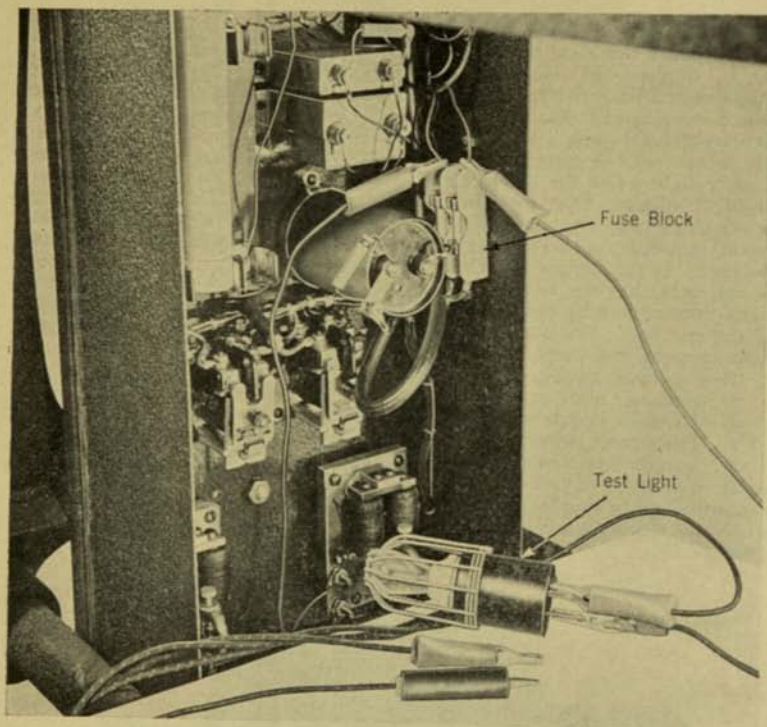

Figure 9. Source of 110V direct current
2. Connect the test light to a source of 110 volt D.C. (If 110 D.C. is not available from an outlet, it may be obtained at the fuse block of the sorter where 110 volt D.C. from the rectifier enters the sorting circuits (Figure 9).